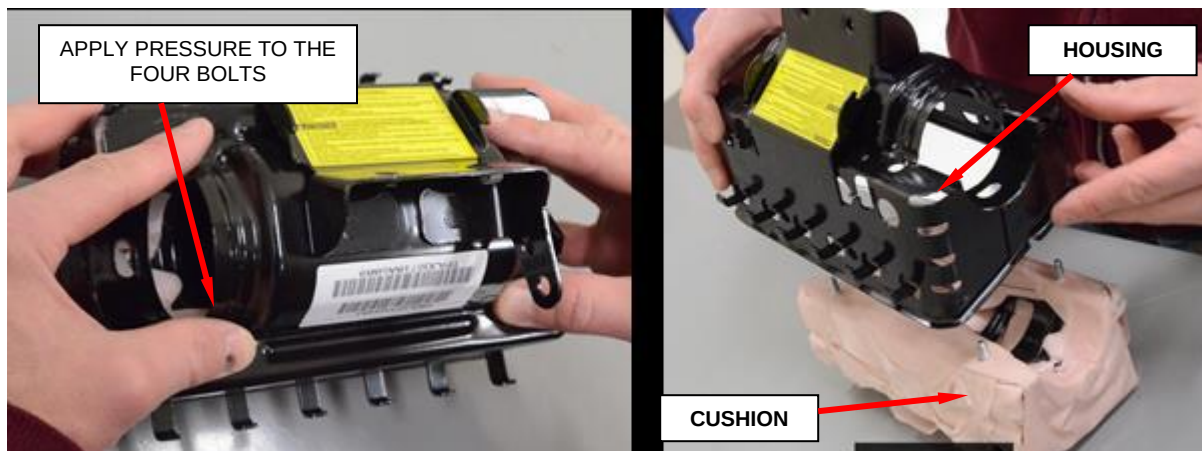

Figure 118 – Remove Airbag Cushion from Housing
h. Remove airbag cushion from housing by applying pressure to the bolts, set cushion aside (Figure 118).